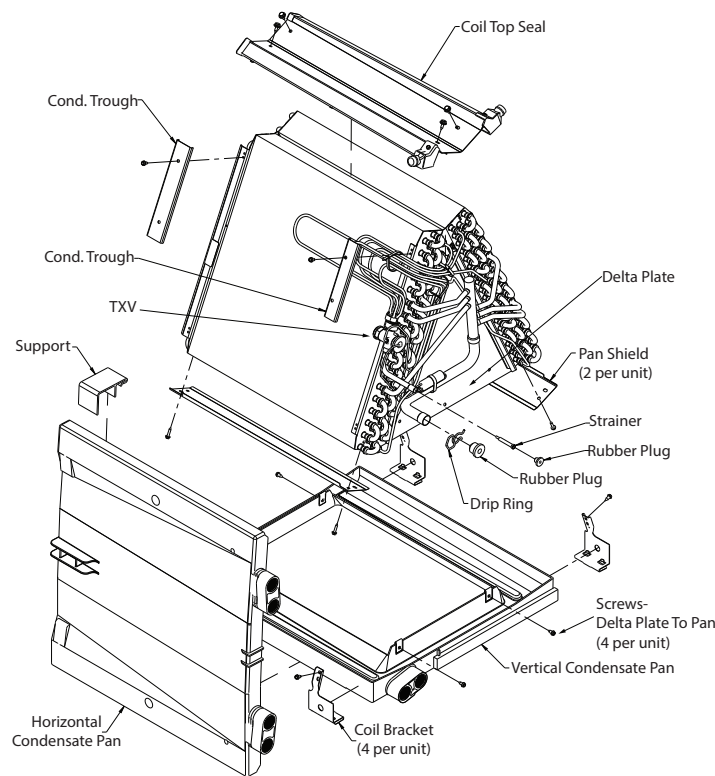

Fig. 24 - A-Coil Component Location
8. Remove horizontal condensate drain pan from coil (if present) and condensate pan assembly. (See Fig. 24.)
9. Remove 4 coil brackets if present. (See Fig. 24.)
10. Remove screws at delta plates and remove coil from vertical condensate drain pan. (See Fig. 24.)
11. **Horizontal Applications Only**—Remove drain connections and J-shaped tube from original coil, and install them in same position on new coil. (See Fig. 24.)
12. Place coil assembly in plastic condensate pan and secure with 4 screws through delta plate. (See Fig. 24.)
13. **Horizontal and Upflow Applications Only**—Attach 4 coil brackets to coil and pan assembly. (See Fig. 24.)
17. **Horizontal Applications Only**—Reinstall horizontal pan clip and secure with 1 screw. (See Fig. 24.)